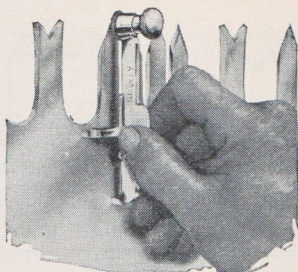

Figure 6
7. The amount of set necessary is determined by the kind of material to be cut. Perfect alignment is absolutely necessary. Therefore, always use the set gauge. The use of a set gauge is shown in Figure 6, Page 32.
allowing the tooth to project a little farther from the apex of the anvil. Each tooth, after setting, should be gauged for accuracy, as shown in the cut illustrating the use of a set gauge (Fig. 6). We submit on Page 33 a number of cuts for your consideration which show the principal forms of saw teeth, both cutting teeth and rakers, for different kinds of timber and different requirements.